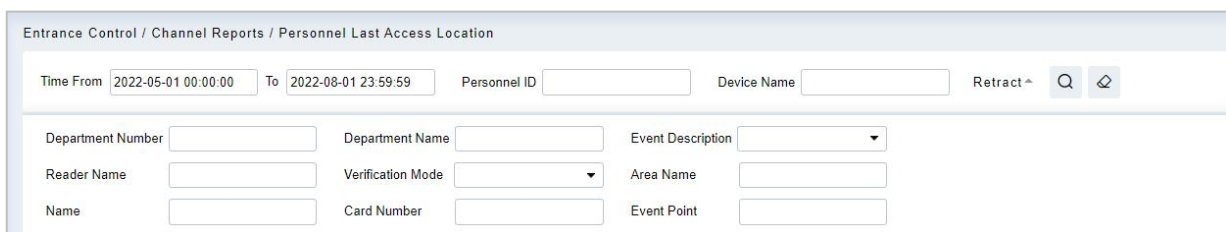

Figure 12-50 Today’s Access Record
Step 2: In Personnel Last Access Location interface, fill in the corresponding query information and click the **Query** symbol to complete the query of access record tables, as shown in Figure 12-50.